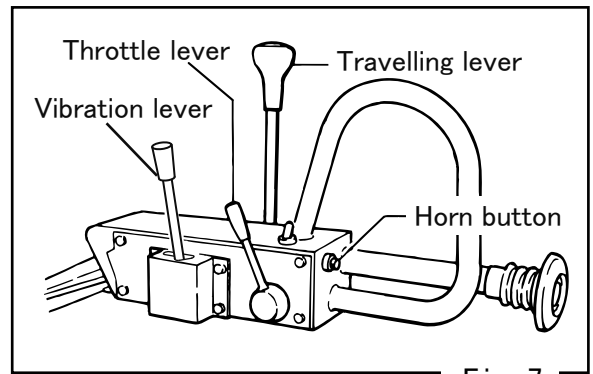

Fig. 7
- Check each lever and wire (travel, vibration, throttle) for proper function. (Fig.7)
- Press horn button to check for proper function. (Fig.7)
- With throttle lever fully opened, increase the engine rotation. (Fig.7)
- With travel lever and vibration lever placed in neutral and OFF position respectively, return throttle lever to START position before conducting cool down run for 3 to 5 minutes. (Fig. 7, 8 and 21)